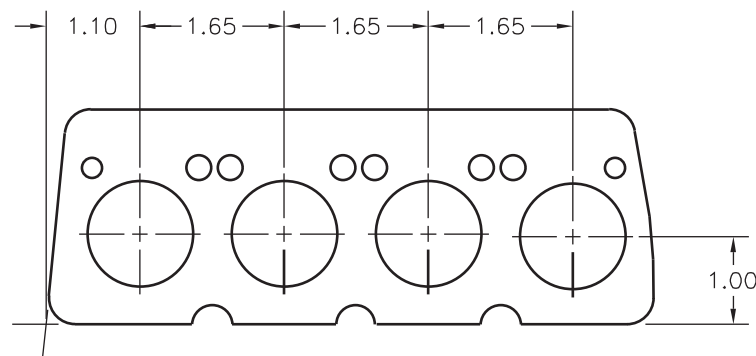

Fig. 17-20
10. Load the drawing named **gasket.dwg**. Erase each of the holes. Replace the large ones according to the locations shown in Fig. 17-20, this time using the **ARRAY** command. Reproduce the small holes using the **ARRAY** command, but don't worry about their exact locations. The diameter of the large holes is **1.25**; the small holes have a diameter of **.30**.